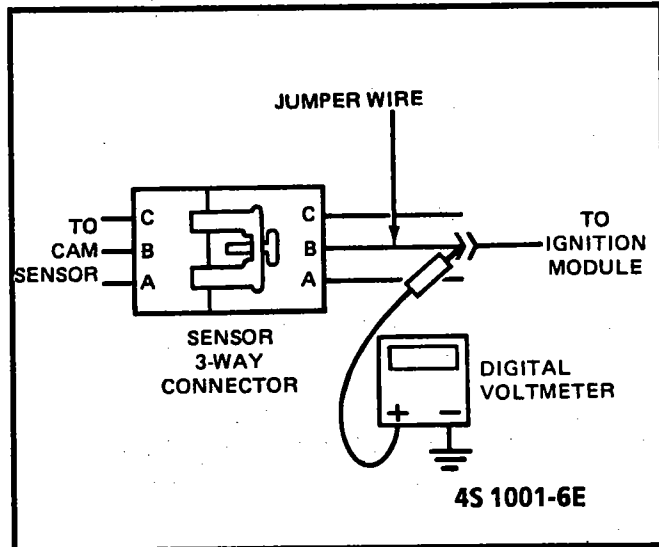

Figure C4-14 - Camshaft Sensor Adjustment
6. Connect a voltmeter between jumper wire and ground. See Figure C4-14.